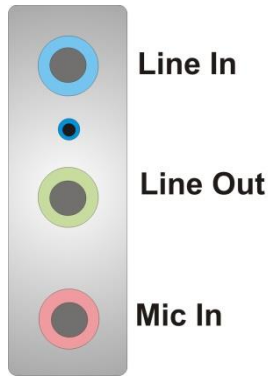

Figure 3-38: Audio Connector
- CN Location:** See **Figure 3-38**